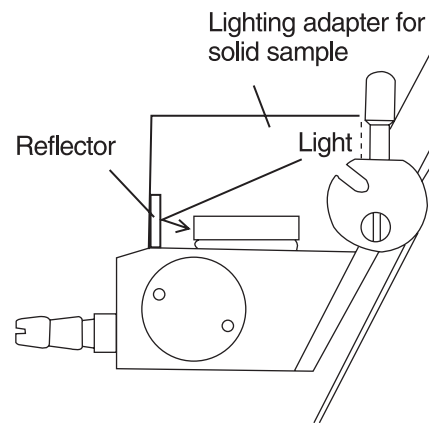

Fig. 9-4
④Put the lighting adapter for solid sample supplied with the DR-A1-Plus on the main prism so as to position the inner reflector in the side of the nozzle for the circulating water (Fig. 9-4).